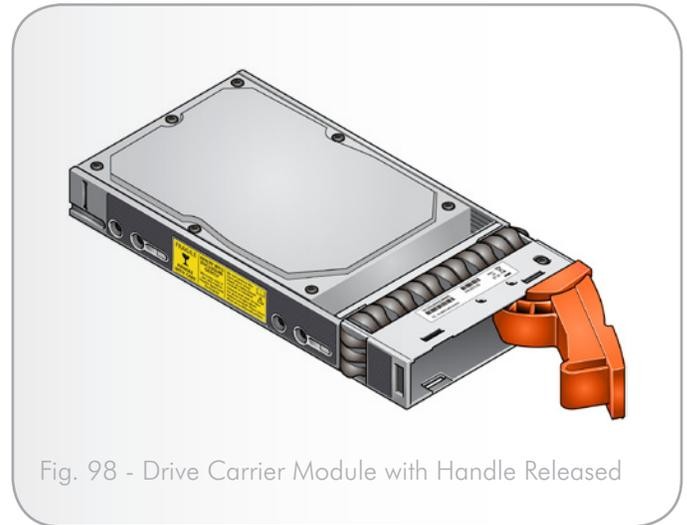

Fig. 98 - Drive Carrier Module with Handle Released
1. Release the carrier handle, by pressing the latch in the handle with your finger and rotating the handle towards the right (*Fig. 98*).